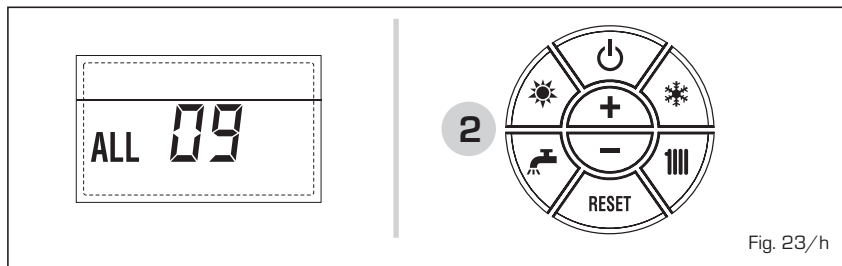

Fig. 23/h
- **AUXILIARY SENSOR ERRORS ALARM 10 (fig. 23/i)**